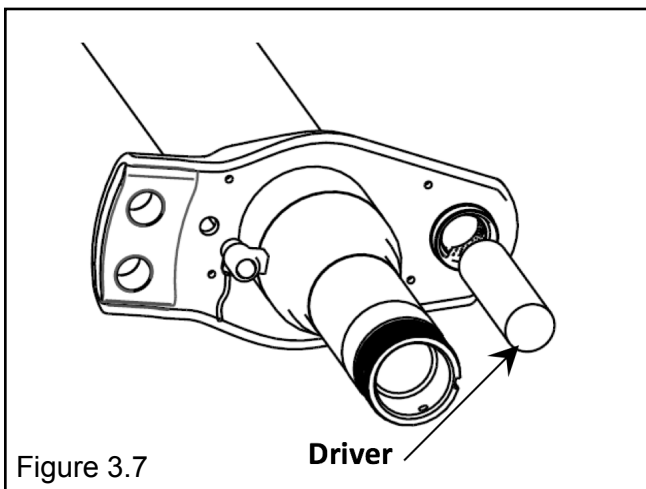

Figure 3.7
6. Use a correct size driver to drive the bushings out of the retainer bore. Use care to prevent damage to the retainer bore (Figure 3.7).